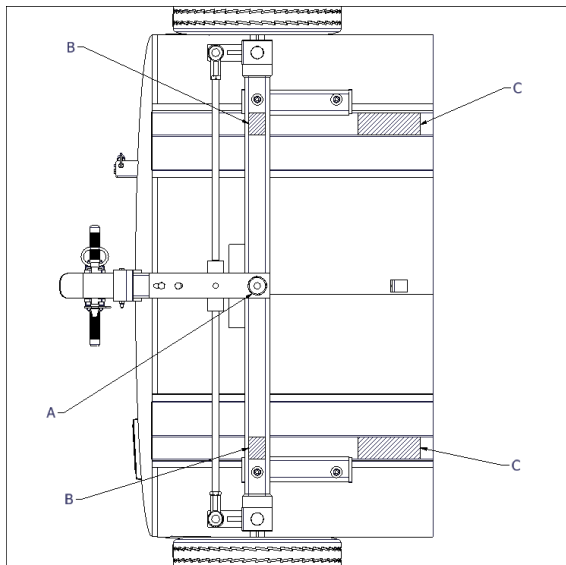

Figure 4-2 Lift Points
- Raise equipment with suitable maintenance jack (see Figure 4-2, arrow A for jack placement) high enough to remove wheel assembly.
- Place approved jack stands under front axle (see Figure 4-2, arrow B for stand placement).
To remove the entire Front Undercarriage assembly, the equipment must have the front end raised. See Figure 4-2 for lift points.
- Raise equipment with suitable maintenance jack (see Figure 4-2 arrow A for jack placement) to allow four inches of space between the wheels and ground.
- Place cribbing under tank skids (see Figure 4-2, reference arrows C) to safely support the equipment.
To remove wheel assembly, the equipment must have the back end raised and placed on approved jack stands. Points A and B are similar on both the rear and front axles. (See Figure 4-2)
- Raise equipment with suitable maintenance jack high enough to remove wheel assembly. (See Figure 4-2, arrow A for jack placement) .
- Place approved jack stands under rear axle (see Figure 4-2, arrow B for stand placement).